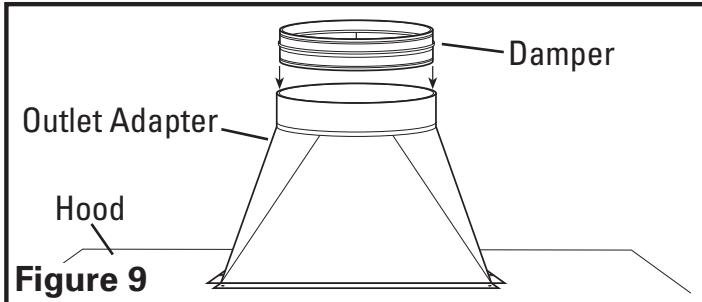

Figure 9
- It is highly recommended that a back draft damper be installed to prevent outside air from flowing back into the home. Choose a back draft damper (available separately) sized to fit the diameter of the outlet adapter. Attach the back draft damper into the outlet adapter, press fit it into the round opening of the adapter until it is fully seated, making sure the damper opens away from the hood otherwise airflow will be restricted (**Figure 9**).